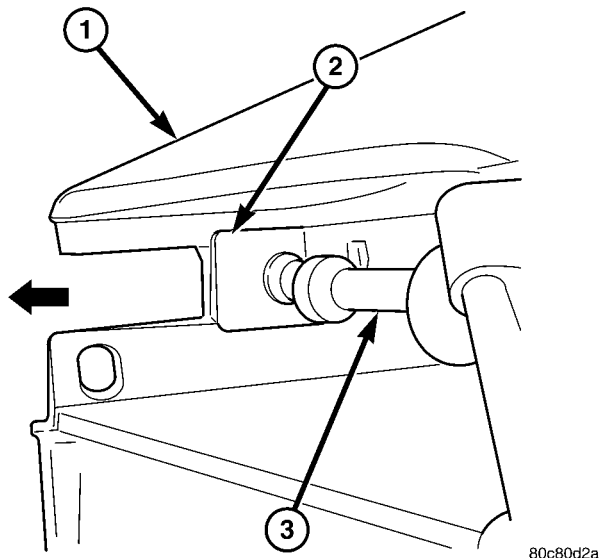

Fig. 4 SPEED CONTROL CABLE AT BRACKET - 3.7L / 4.7L
(6) Slide speed control cable plastic mount towards right of vehicle to remove cable from throttle body bracket (Fig. 4).